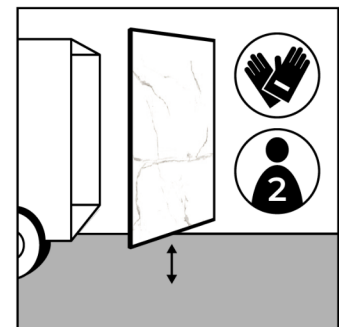

Figure 1
2. Carry the Kobert-In panels as individual pieces using two people. **(Figure 1)**